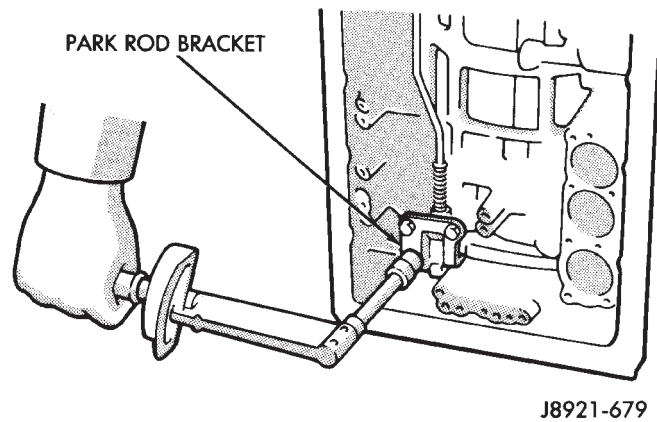

Fig. 12 Installing Park Rod Bracket
(15) Position park lock rod bracket on case and tighten bracket attaching bolts to 10 N•m (7 ft. lbs.) torque (Fig. 12).